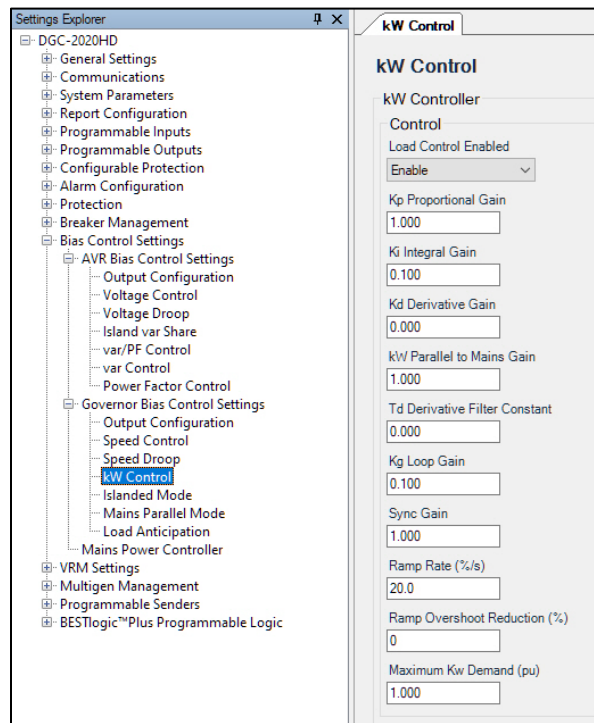

Figure 14. Generator Ramp Rate Setting
- Max Parallel Time – This setting applies to closed transitions only. It is the maximum amount of time that the generator will be allowed to parallel to the mains. During a transition to mains event, if the max parallel timer expires before the transfer is complete, the generator breaker will open, and the balance of the load will immediately be transferred to the mains. It is good practice to ensure that the Max Parallel Time setting is longer than the Transfer Time setting. The transfer time can be estimated by dividing the generator % load by the ramp rate, found in the kW control settings shown in Figure 14.
- Once synchronization has been achieved, the mains breaker closes and the transfer of load begins. The load will transfer at the ramp rate setting. See Figure 14.